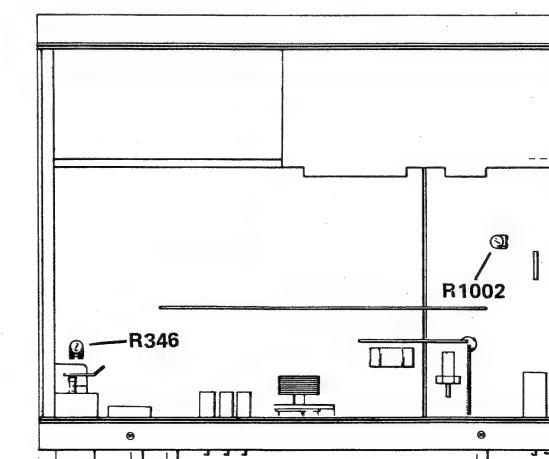

Figure 24 Test points
- Adjust R1002 (Tuning system 2, figure 24) for symmetrical noise on the sinewave.
- Turn R346 (figure 24) counterclockwise to increase the touch sensitivity on the Tuning knob.